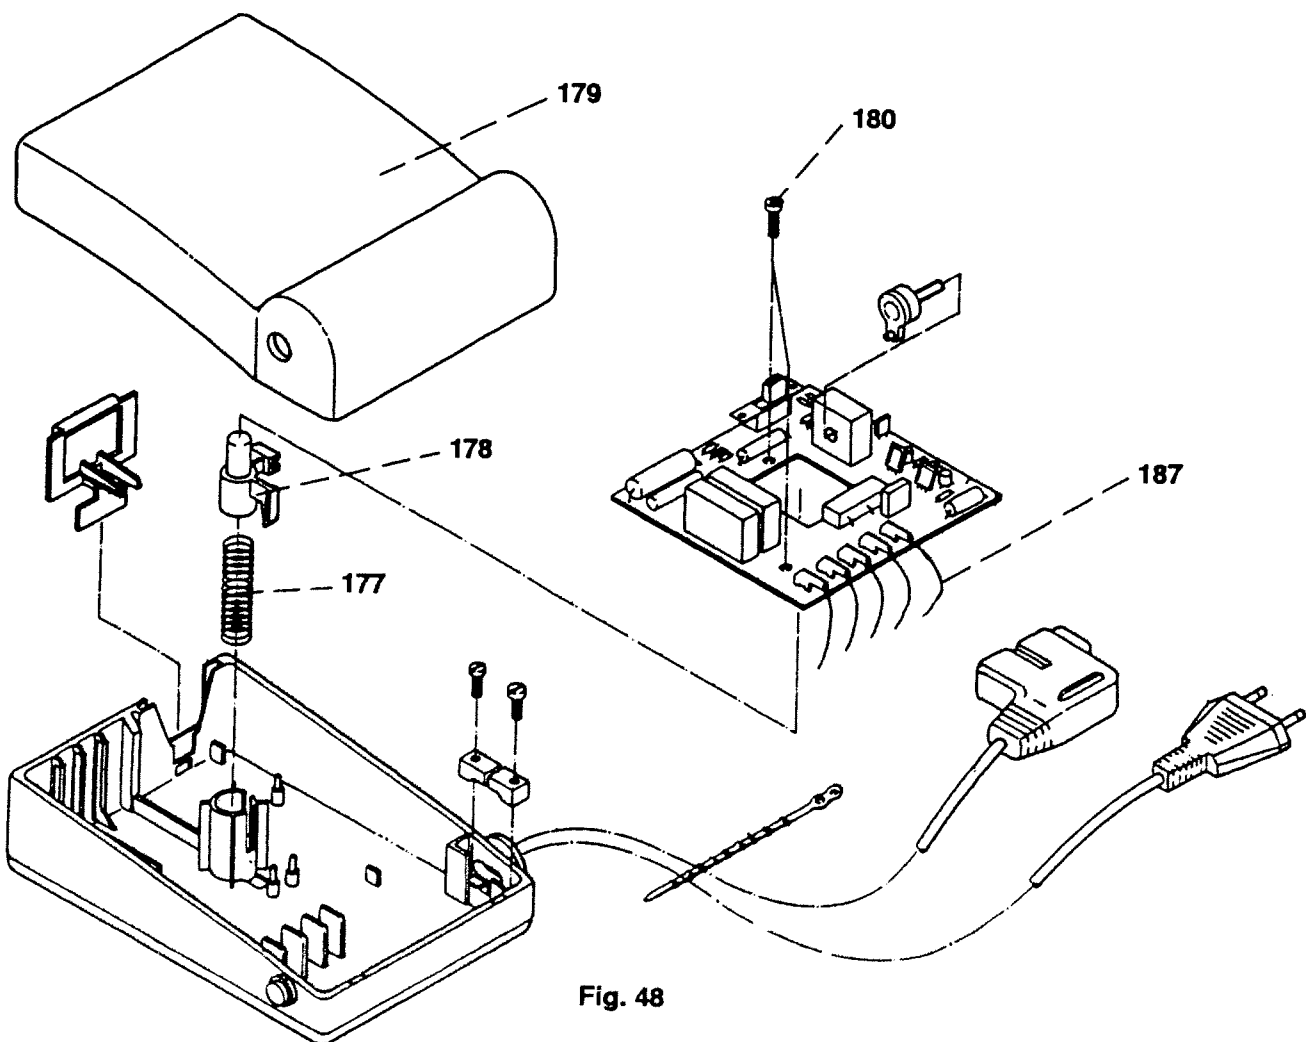

Fig. 48
- Insert a screwdriver with a wide blade on the side opposite the cables (fig. 48).